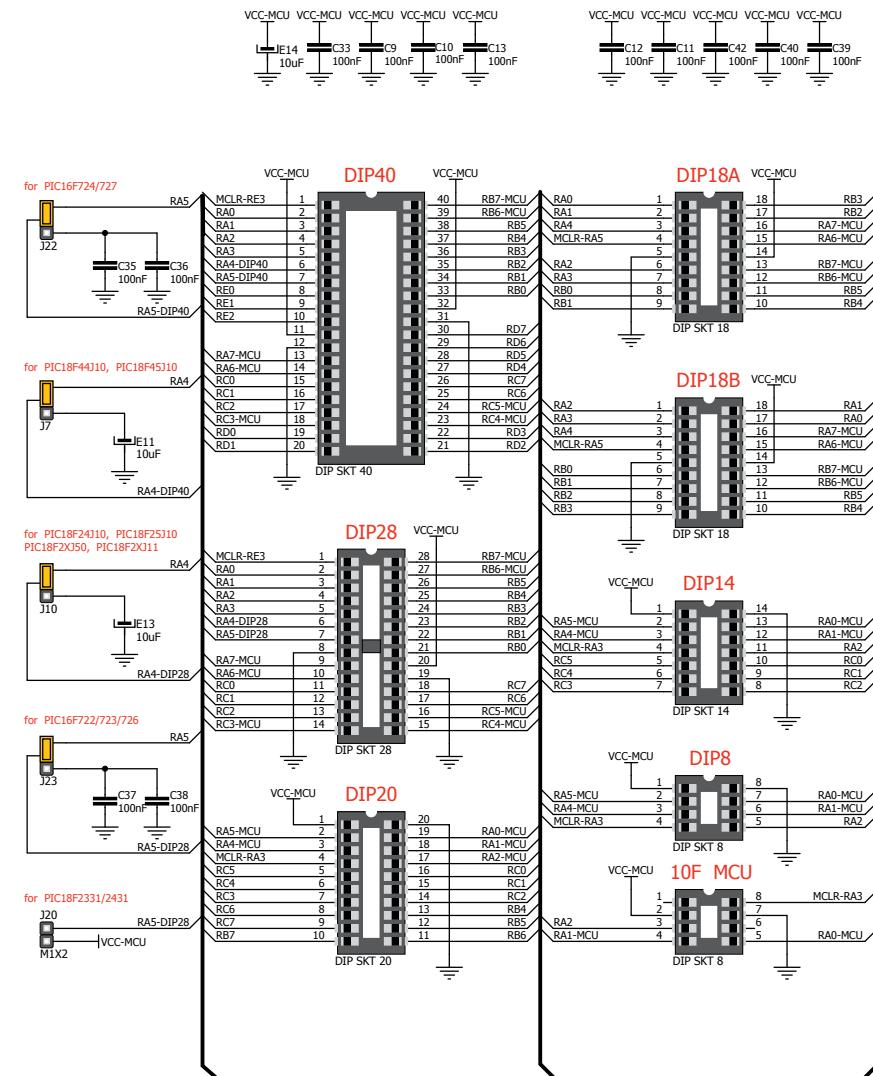

Figure 4-1: Schematic of on-board DIP sockets and VCAP jumpers
**IMPORTANT:** When using **PIC18F2331** or **PIC18F2431** microcontrollers it is necessary to place **J20** jumper, in order to route VCC power line to RA5 pin (Figure 4-1)